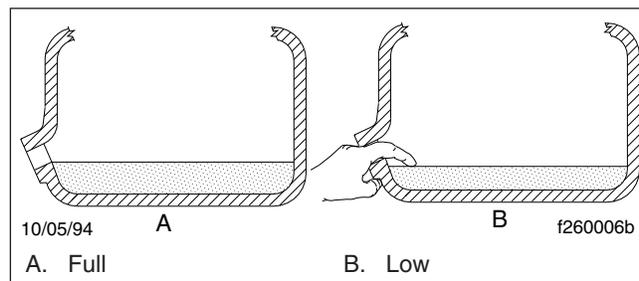

Fig. 1, Transmission Oil Level Checking
3. Check that the oil is level with the lower edge of the transmission fill opening. See Fig. 1.
1. Add fluid until it is level with the lower edge of the fill opening. See Fig. 1. If the transmission has two fill openings, add fluid to the level of both fill openings. See Table 1 for approved transmission lubricants, and Table 2 for lubricant capacities.